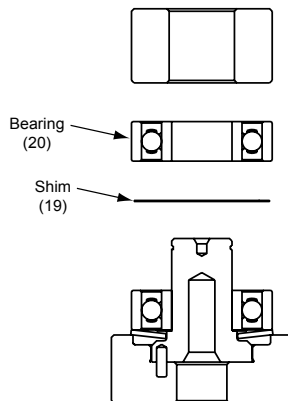

Figure 4
3. Place the (19) Shim over the (24) Spindle shaft and onto the face of the (20) Bearing making sure it is on center. Place the (18) (no seals/shields) Bearing down using the (MPA0204) T-3B Spindle Bearing Pressing Tool Top, being careful to make sure the Shim is still centered on the vertical axis of the Spindle shaft and Bearing. See Figure 4. When the Spindle Assembly is done correctly, the Bearings will rotate freely but not loosely and the Shim can be moved but will not slide or move by gravity.
4. Snap the (17) Retaining Ring onto the (24) Spindle Assembly making sure it is completely snapped into the groove.
5. Take the (14) Filter and center it on the small bore of the (13) Shaft Balancer that the original Filter was in before removal. With a small diameter screwdriver or flat-ended rod, press the Filter into the bore until it is flat in the bottom of the bore.